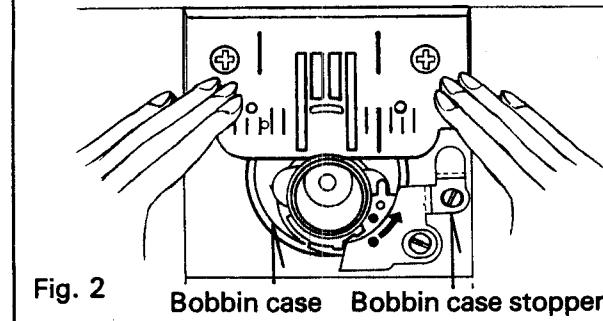

Fig. 2
2. Turn the bobbin case in the direction of red arrow on the stopper until it stops. (Fig. 2)